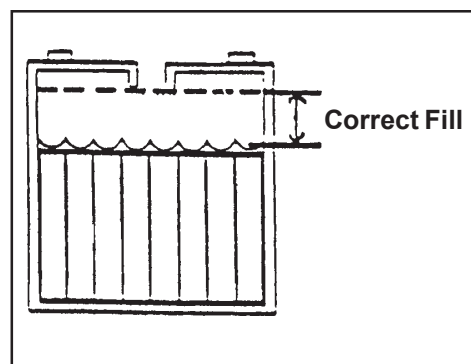

Figure 9
1. Keep the electrolyte at the correct level. The correct level is between 1/4" (1/2 cm) below the bottom of the tube in each cell and above the tops of the plates. Check the level of the electrolyte each time you charge the batteries (see figure 9).